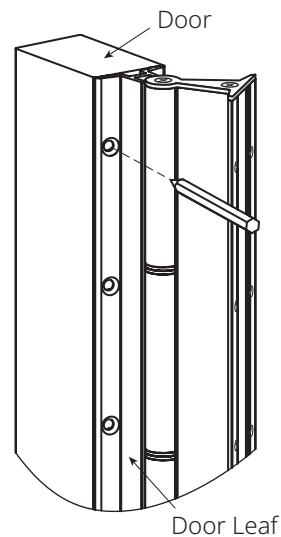

Fig. 3
2. Mark and center punch each hole on door with hinge held firmly in place (Fig 3). Remove hinge from door and prepare to drill door.